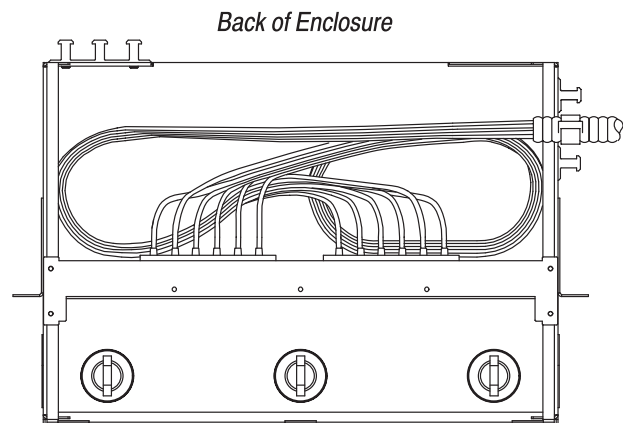

Figure 6
2. Join the connectors to the coupling bushings or SL housings at the back of the interface housing module or cassette. See Figure 6, Detail A.
4. Join the connectors to the coupling bushings or SL housings at the back of the interface housing module or cassette. See Figure 6, Detail B.